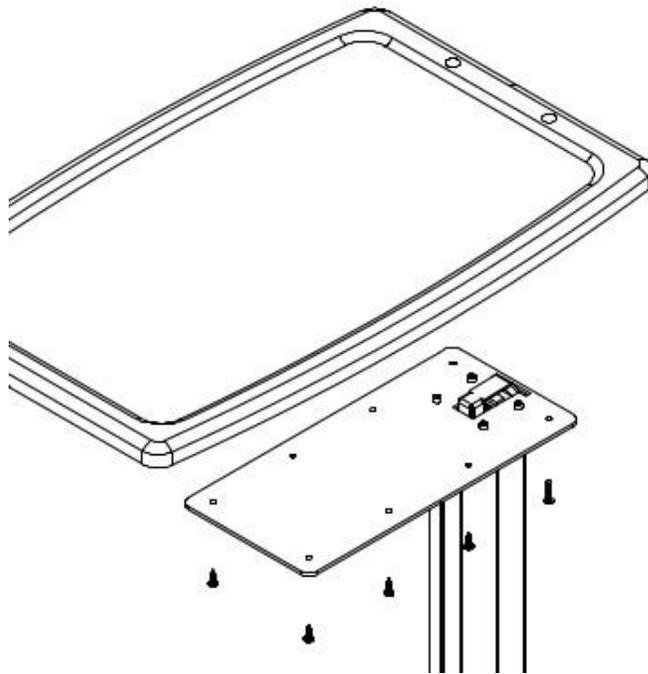

Figure 3
Raise the unit to its fullest extension. Remove (8) screws from the underside of the plate. Lift top up and off of the plate. See Figure 3